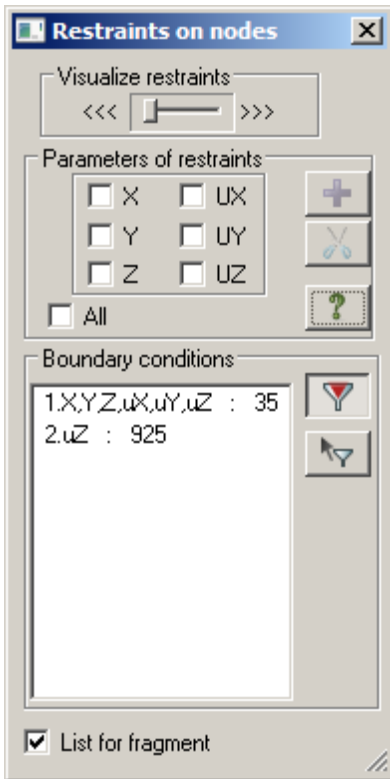

Figure 16.14 **Restraints on nodes** dialog box
- ⇒ In the **Restraints on nodes** dialog box (see Fig.16.14), specify directions along which displacements of nodes are not allowed (UZ). To do this, select appropriate check boxes.